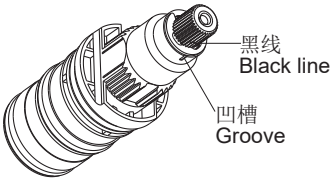

Fig.5
**注意：** 确保拆卸、安装过程中不要转动温控阀轴。如不小心转动了阀轴，要调整阀轴使外齿上的黑线标识与相邻的塑料套上的凹槽对齐(Fig.5)，或者按前述方法进行调整。
**NOTE:** Do not turn the cartridge when reinstalling it. If you turn it accidentally, you should adjust it and be sure that the black line is correctly in line with the groove(Fig.5), or readjust as per the steps of verification and setting.